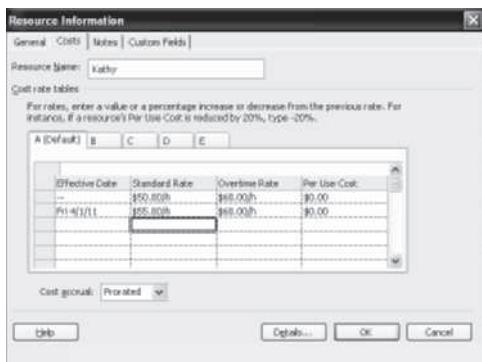

FIGURE A-39 Adjusting resource costs
3. Enter the raise percentage. Type **10%** in the second cell for the Standard Rate column, and then press **Enter**. The Resource Information screen should resemble Figure A-39. Notice that Project 2010 calculated the 10% raise to be \$55.00 per hour. Click **OK**.